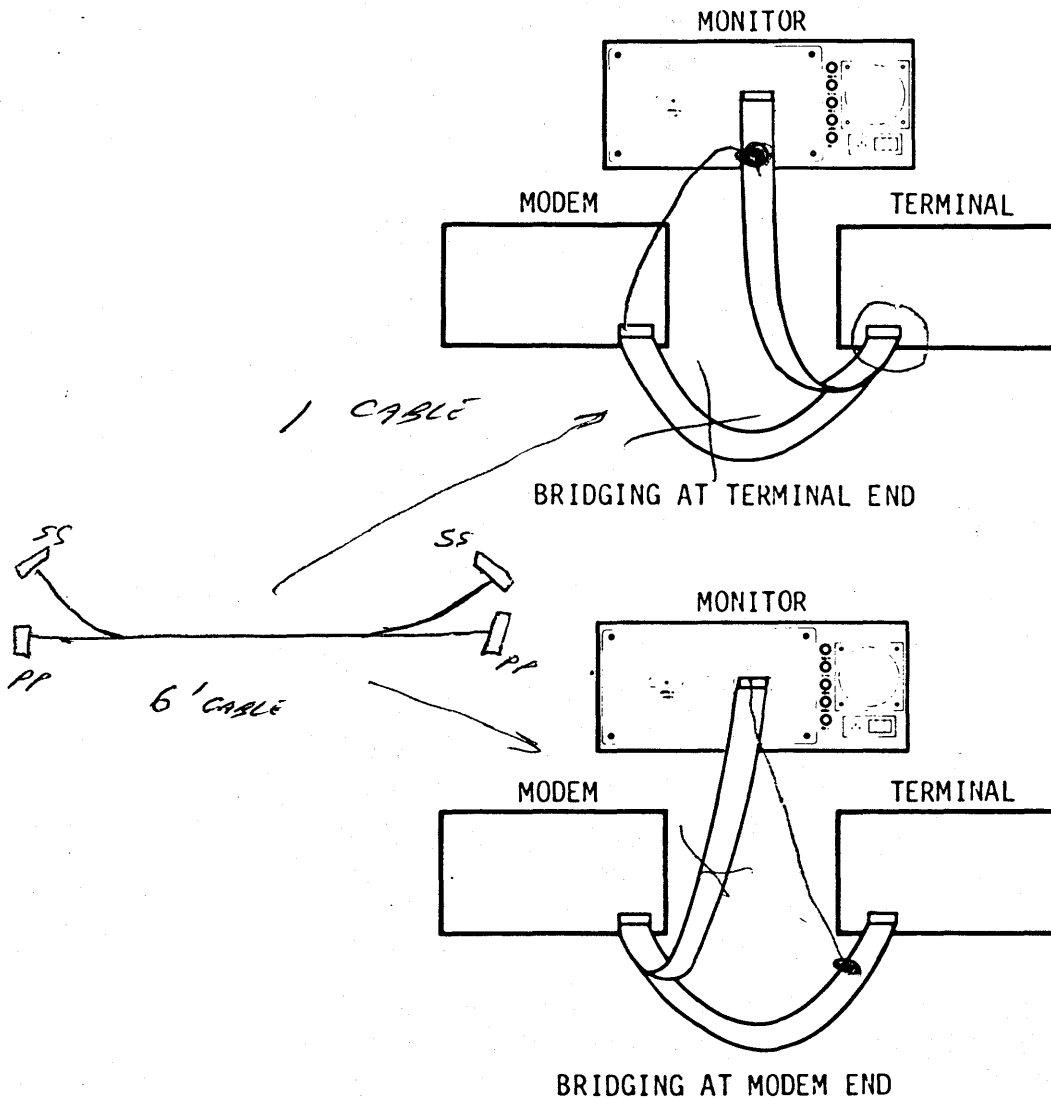

Figure 1. Data Interface Interconnections
4.02 The DATA INTERFACE connector on the rear of the monitor provides an RS-232 interface for connection to either terminal or modem equipment. (See figure 1.)